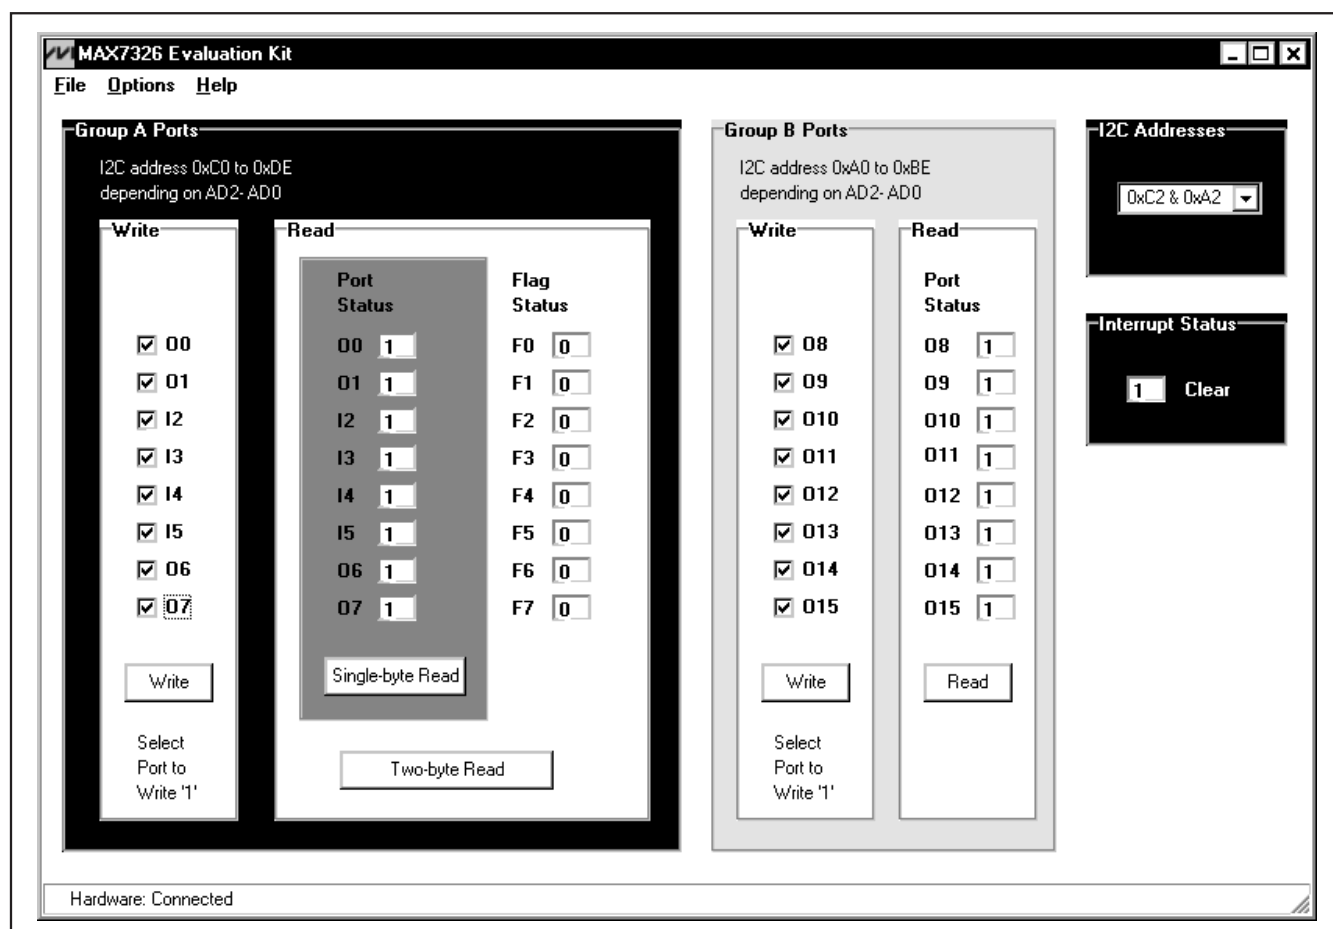

Figure 1. MAX7326 Evaluation Software Main Window
- Start the MAX7326 EV kit software by opening its icon in the **Start** menu. The GUI main window will appear, as shown in Figure 1.
To start the MAX7326 EV kit software, double click the MAX7326 EV kit icon that is created during installation. The GUI main window appears, as shown in Figure 1.
The **Group A Ports** group box shown in Figure 1 contains the **Write** group box and the **Read** group box. The **Read** group box consists of two sections: **Port Status** and **Flag Status**.